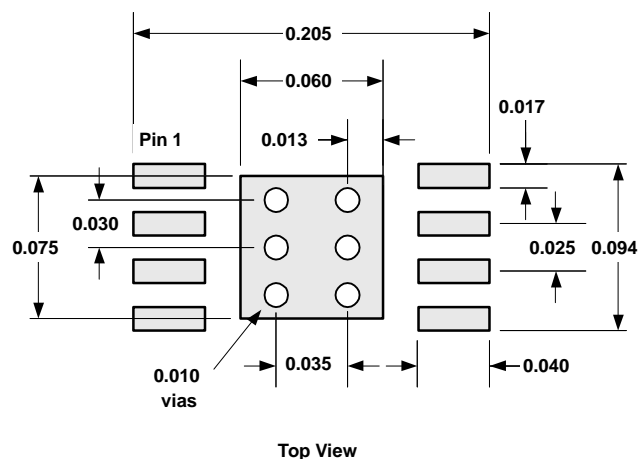

Figure 60. DGN PowerPAD PCB Etch and Via Pattern
1. PCB with a top side etch pattern as shown in Figure 60. There should be etch for the leads as well as etch for the thermal pad.